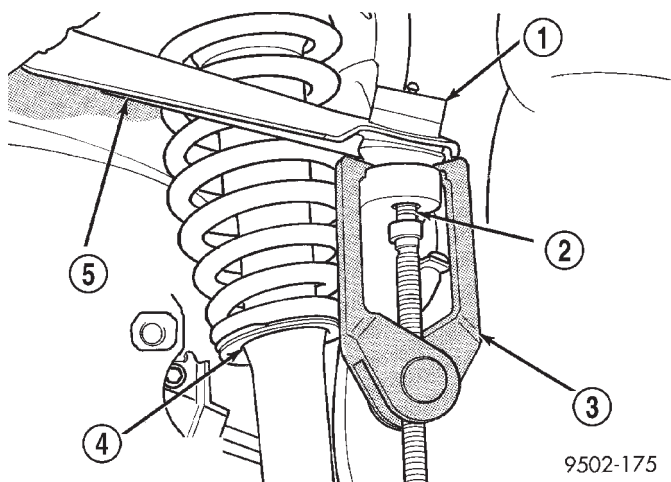

Fig. 8 Ball Joint Stud Removal From Steering Knuckle
- (7) Remove the upper ball joint stud from the steering knuckle using Puller, Special Tool, C-3894-A (Fig. 8). Pull steering knuckle outward and position toward the rear of the front wheel opening.